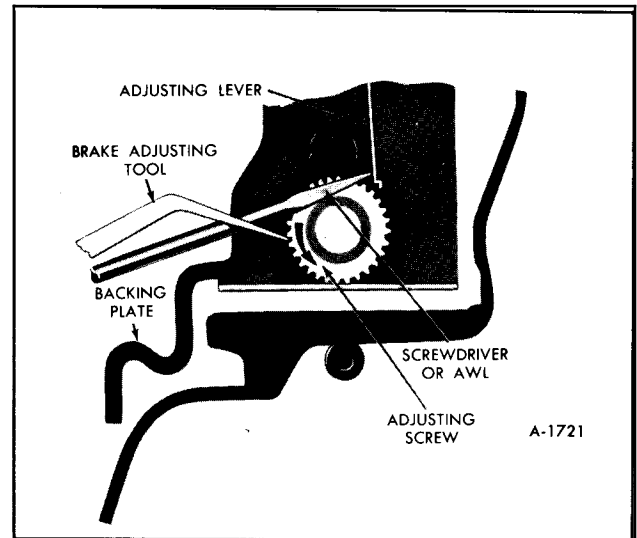

Figure 7—Backing Off Brake Adjustment
2. Back off brake adjusting screw (figure 7) at each wheel 30 notches. If shoes drag lightly on drum, back off adjusting screw one or two additional notches.
NOTE: It may be necessary to back off the brake shoe adjustment before the brake drum can be removed. To back off brake shoe adjustment, refer to Figure 7.